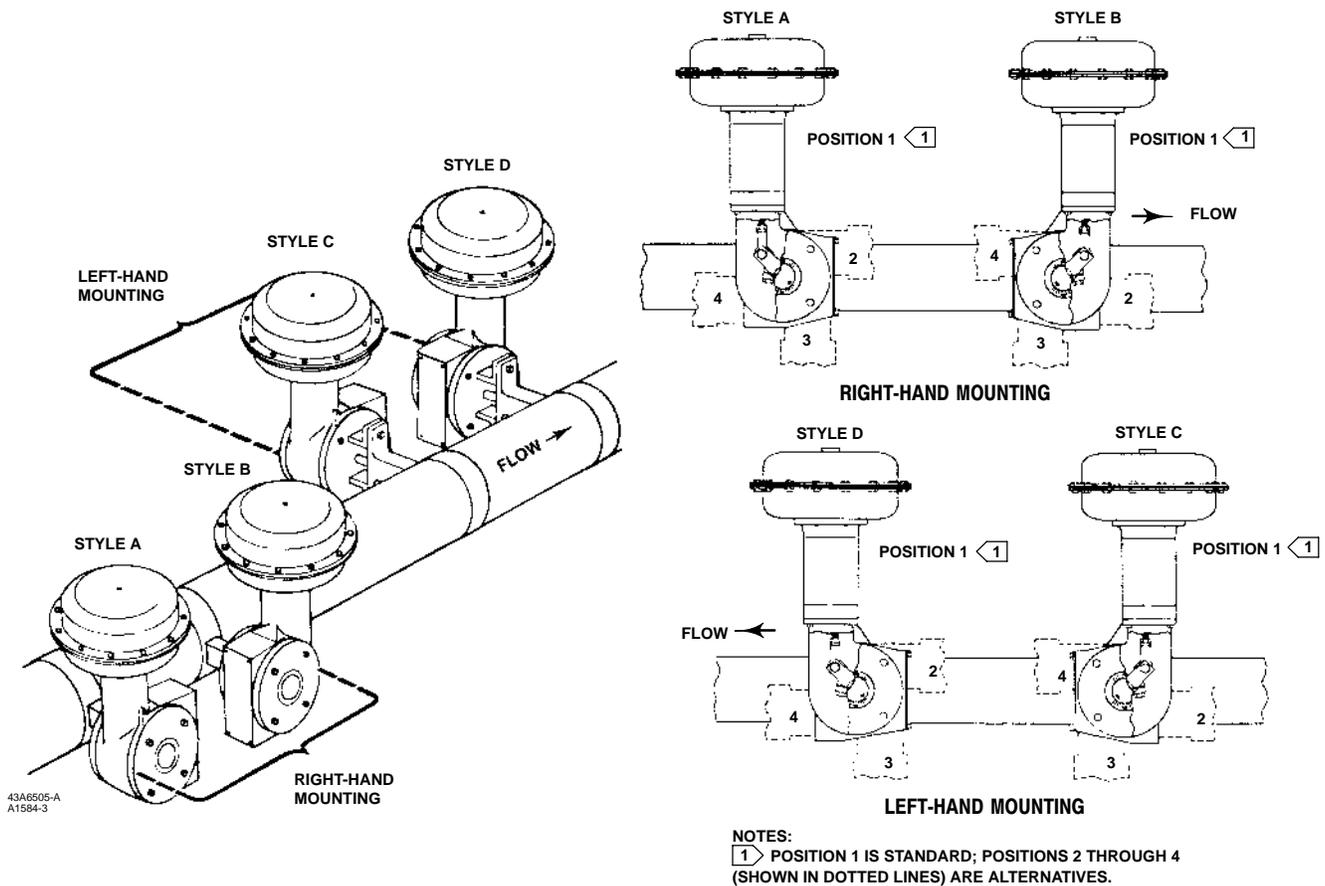

Figure 3. Mounting Styles and Positions for the Type 1051 and 1052 Actuator
For information on the various actuator mounting styles and positions, see figure 3. Also refer to the appropriate actuator instruction manual.
4. See figure 3. For actuator mounting styles A and D, proceed to the note before step 8. For actuator mounting styles B and C, continue with step 5.